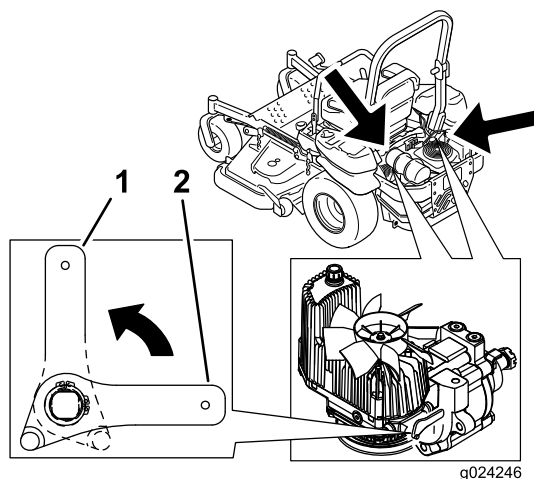

Figure 33
2. Rotate the release valve levers vertically to push the machine. This allows hydraulic oil to by-pass the pump enabling the wheels to turn (Figure 33).
4. Rotate the release valve levers horizontally to run the machine (Figure 33).